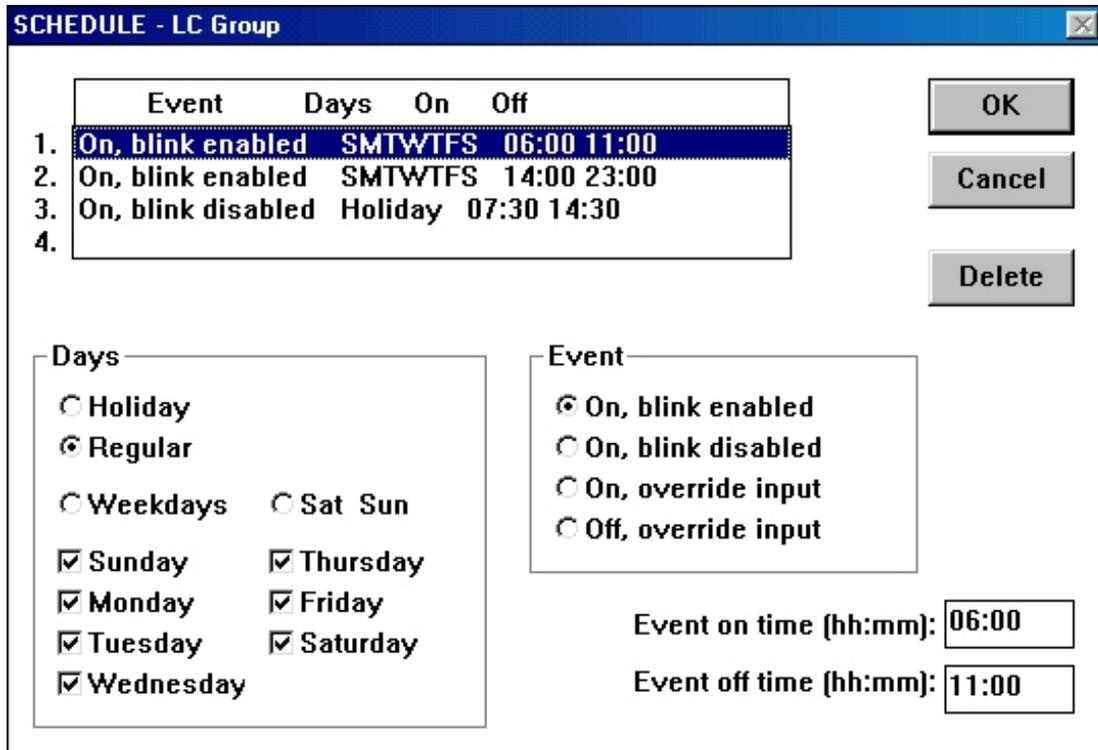

Figure 18: Schedule Event Dialog Box
2. On the Action menu, click Add/Modify Schedule Event. The Schedule Event - LC Group dialog box appears (Figure 18). This dialog box displays the currently scheduled events for this object and can add, modify, or delete events.
1. Display the Schedule Event dialog box (Figure 18).
1. Display the Schedule Event Dialog box (Figure 18).